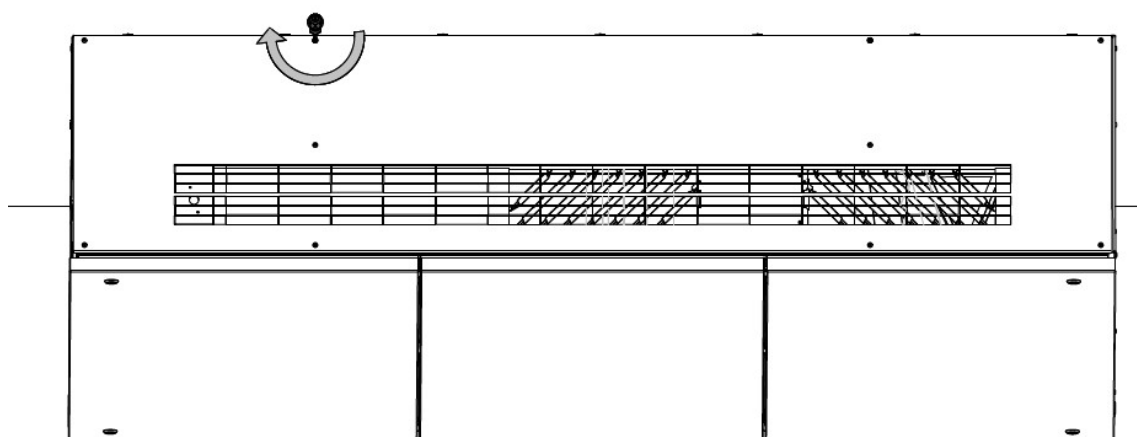

Figure 10: Disassemble the front cover
3. Disassemble the front cover, see Figure 10. Carefully place the cover on a protective underlay to prevent scratches to the surface.